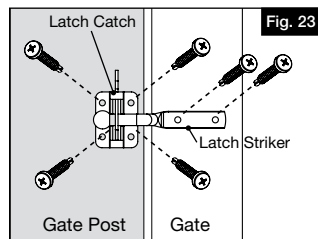

Fig. 23
- Measure and install latch with six (6) 1" Phillips screws as provided with the latch. The latch striker is installed on the gate first and then install the latch catch onto the gate post (Fig. 23).